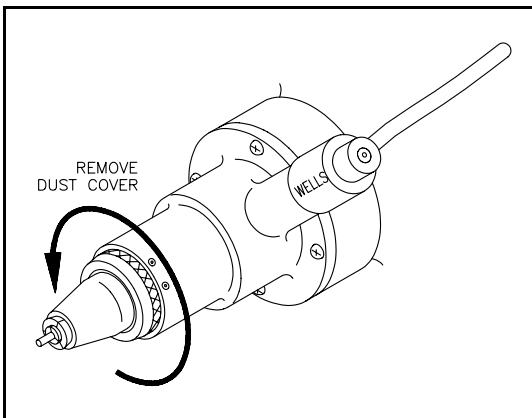

Figure 2.
- 2.1 Remove the knurled dust cover by rotating **COUNTER-CLOCKWISE**. See Figure 2. It has **right-hand threads**.